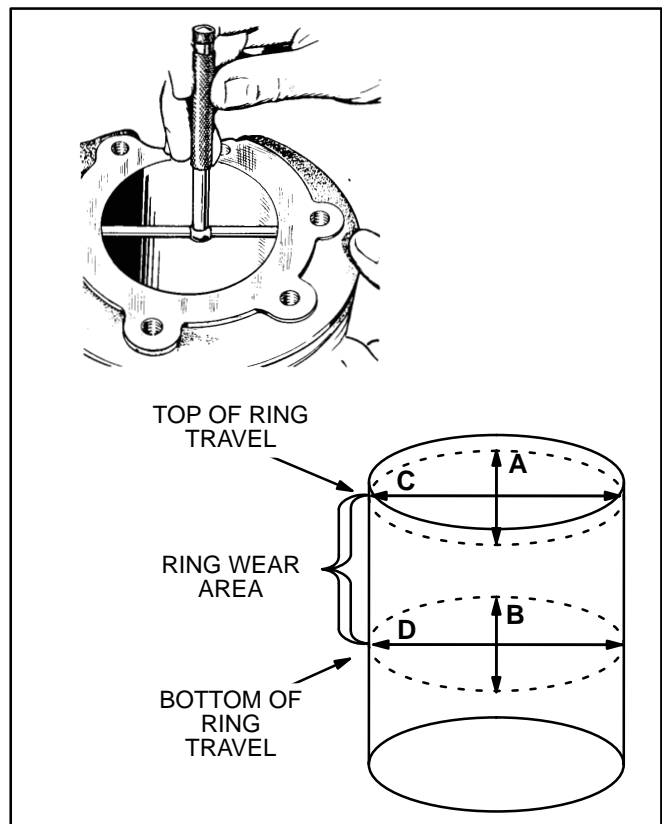

FIGURE 95. MEASURING CYLINDER BORE
1. Check cylinder bore for taper, out-of-roundness and wear with a cylinder bore gauge, telescope gauge or inside micrometer. These measurements should be taken at four places: the top and bottom of piston ring travel, and parallel and perpendicular to the axis of the crankshaft. See Figure 95.